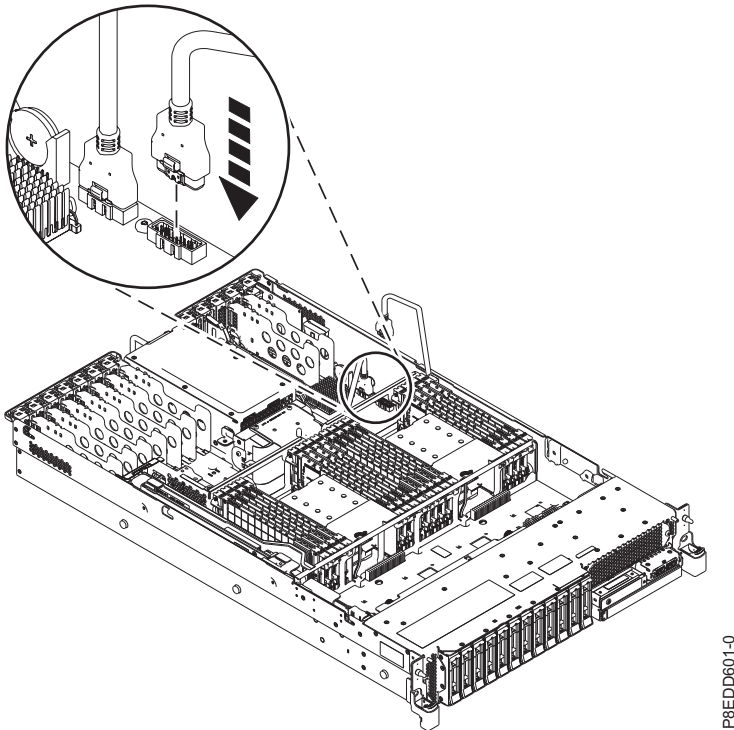

Figure 139. Reconnecting the front USB cable
26. Reroute the front USB cable and reconnect it to the backplane, as shown in Figure 139.